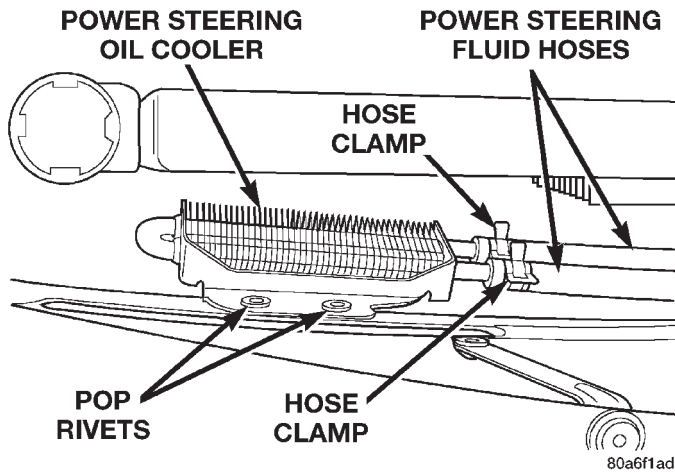
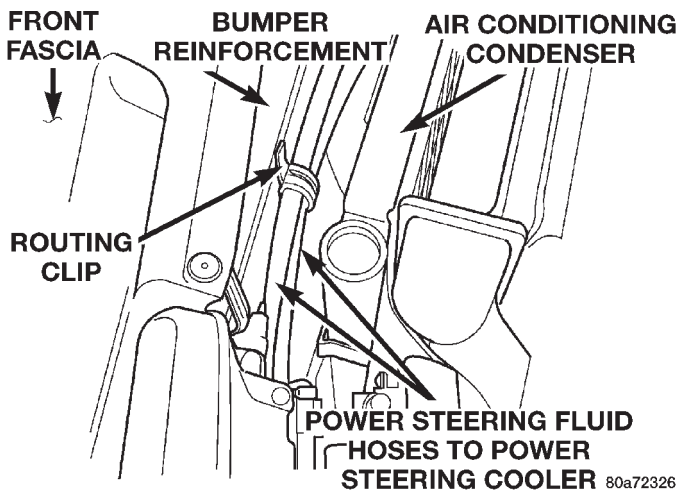

Fig. 29 Hose Clamps At Power Steering Fluid Cooler
Fig. 30 Power Steering Fluid Hose Attachment
(10) Remove the hose clamps (Fig. 29) from the power steering fluid hoses. Remove the power steering fluid hoses from the power steering oil cooler. Drain power steering fluid from the hoses and the power steering fluid cooler.
(11) Remove the routing clip (Fig. 30) attaching the power steering fluid cooler hoses (Fig. 30) to the front bumper reinforcement.
(2) Route the hose section of the power steering cooler lines to the power steering oil cooler. Install the routing clip (Fig. 30) on the front bumper reinforcement.
(3) Install the hose clamps on the power steering cooler line hoses.
(4) Install the hoses from the power steering cooler lines on the power steering oil cooler. Install the hose clamps (Fig. 29) on the power steering fluid hoses. **Be sure clamps are installed on hoses past the upset beads on the power steering oil cooler hose fittings.**